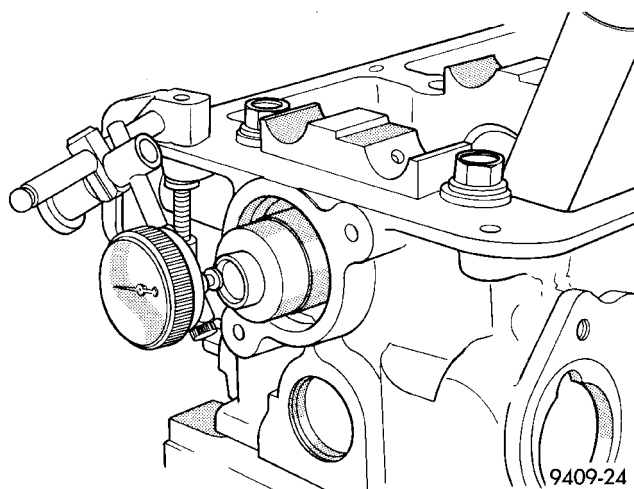

Fig. 23 Camshaft End Play
(1) Oil camshaft journals and install camshaft without rocker arm assemblies. Install cam sensor and tighten screws to specified torque.
(2) Using a suitable tool, move camshaft as far rearward as it will go.
(3) Zero dial indicator (Fig. 23).
(4) Move camshaft as far forward as it will go.
(5) End play travel: 0.13 - 0.33 mm (0.005 - 0.013 in.).